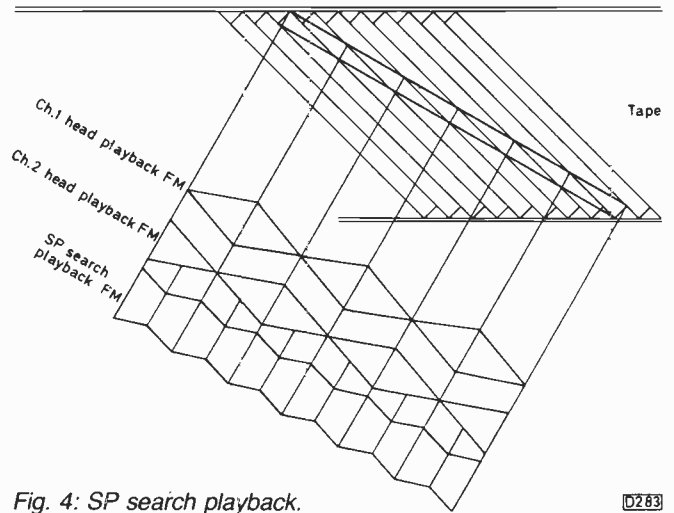

Fig. 4: SP search playback.
All four heads are active in the SP picture search mode (C), in forward or reverse. At nine times normal speed each head crosses a number of tracks, some eight-nine (see Fig. 4). Each head can replay only alternate tracks since those between have the wrong azimuth. Hence the noise bar with traditional machines. The HRD725 how-